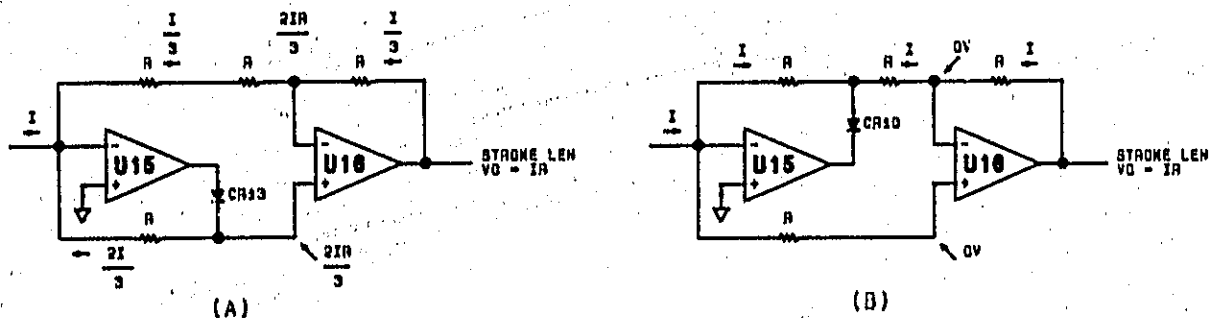

Figure 8-22. Simplified Z Modulation Schematic
Figure 8-22(A) represents the Z Modulation circuit when the net current at the summing node is moving away from the input of U15. The output of U15 becomes positive, turning CR13 on. The voltage out of U16 is equal to the voltage at its input plus the voltage across R109, or $I \times R109$.
Figure 8-22(B) represents the Z Modulation circuit when the net current at the summing node is moving toward the input of U15. The output of U15 becomes negative, turning CR10 on. The voltage out of U16 is equal to the voltage across R109, or $I \times R109$.